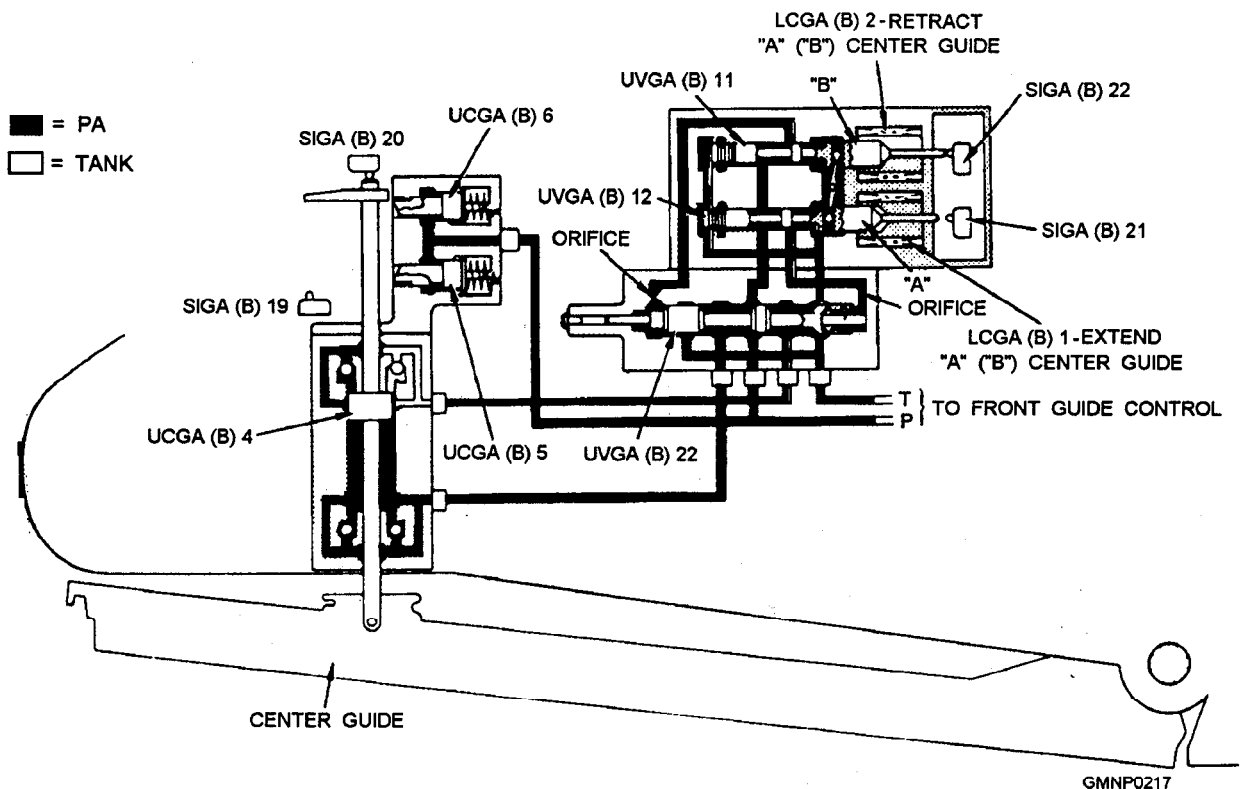

Figure 4-25.—Center guide retract; hydraulic schematic.
(extend cycle) and figure 4-25 (retract cycle).
When the GMLS is secured, the center guide is normally in the retracted position. It is held thereby the upper latch. After the GMLS is activated, PA is distributed throughout the hydraulic system. Both latches are automatically retracted when PA overcomes latch spring pressure. Since the solenoid is detented, PA is also routed through it and the directional valve to pressurize the bottom (or retract) side of the cylinder. The center guide is held in the retracted position as long as PA is available. The latches will not extend until the GMLS is secured and PA drops below latch spring tension. Figure 4-25 shows the equipment condition just described.
The hydraulic-mechanical operations that retract the center guide begin with energizing LCGA(B)2 (fig. 4-25). They basically reverse the extend cycle actions. We will not go into a detailed explanation of this operation. Study and compare the extend and retract hydraulic schematics and you will see the differences. Retract time is 1.17 seconds.
4. Power-off brake (not shown—see figures 4-25 and 4-26)